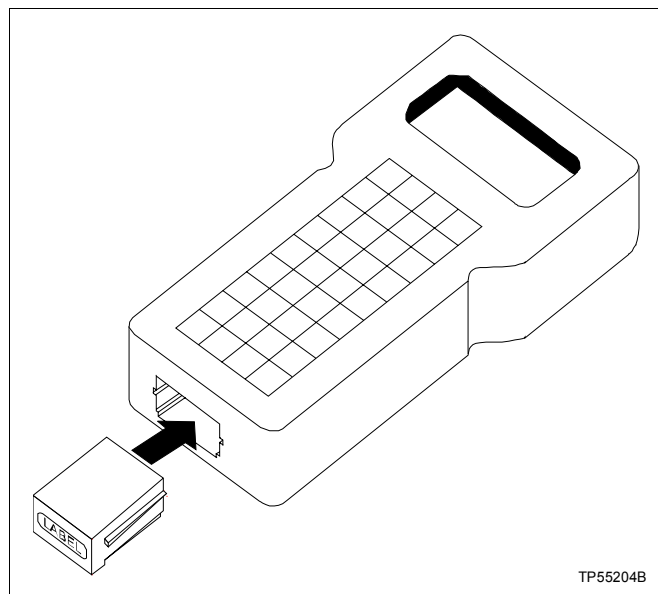

Figure 3-1. Cartridge Installation
2. Insert the cartridge (label facing out) into the receptacle at the bottom of the terminal (Fig. 3-1).